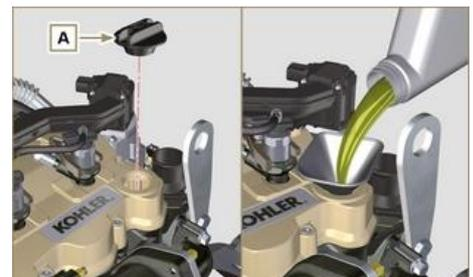

Fig. 5.2
4. Re-tighten the cap **A** and/or **C** (Fig. 5.2).